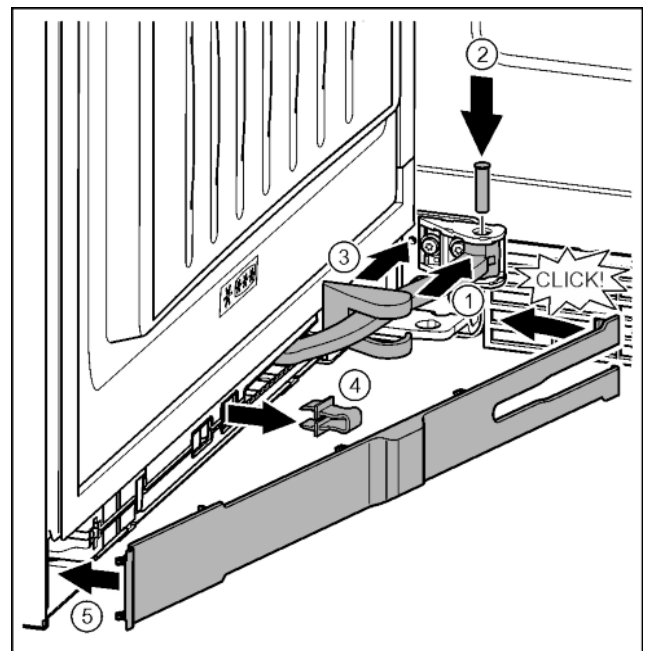

Fig. 39
- ▶ Turn the hinge in the mount. Fig. 39 (1)
- ▶ Insert the bolt with a T15 screwdriver in the mount and hinge. Ensure here that the catch is properly fitted in the channel. Fig. 39 (2)
- ▶ Push the mounting block cover along the hinge and fit onto the mount. Fig. 39 (3)
- ▶ Remove safety device. Fig. 39 (4)
- ▶ Position the cover plate on the handle side and swivel into place. Fig. 39 (5)